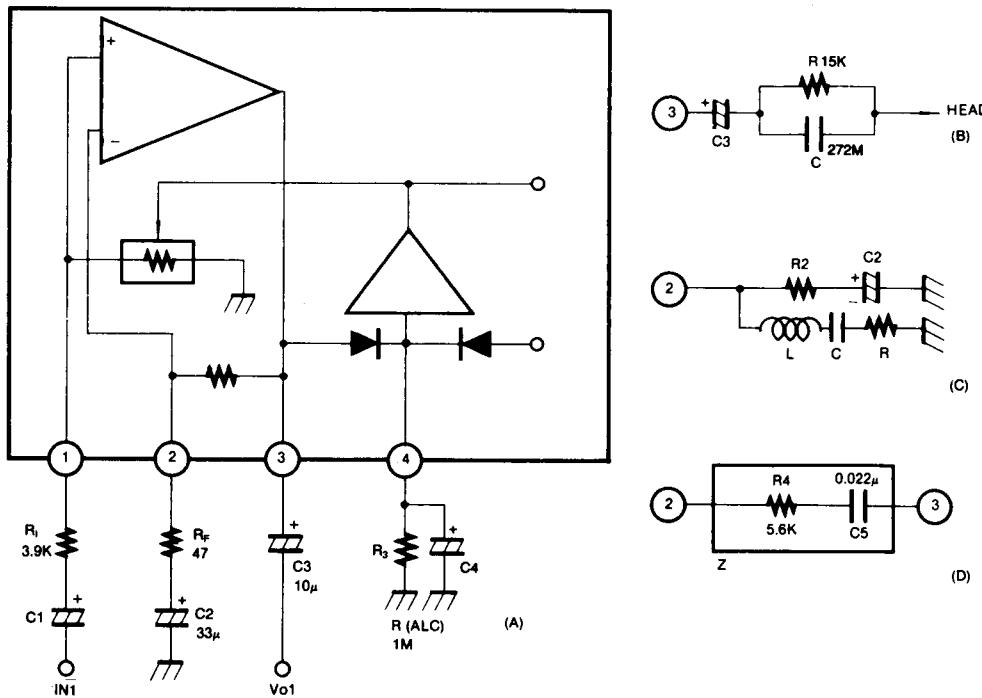

Fig. 3
2. Recording Amplifier (Figure 3 (A))
The recording amplifier requires a compensation circuit to correct loss at high frequencies. The compensation circuit may be either CR or LC resonance. The frequency response of the resonance circuit is fixed at 1~4KHz. An example using a CR is shown in Figure 3 (B), and one using LC resonance is shown in Figure 3 (C).
As the Figure 3, because the R_F range is $47 \sim 100$ ohm normally at the set application, the matching between R3 and C4 occurs.